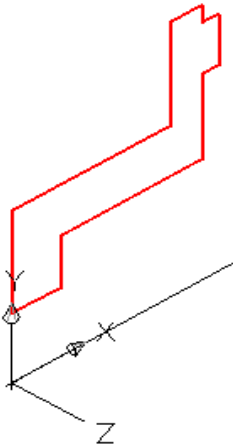

Figure Step 6
Step 6 On layer Construction, starting at 0,0,0, draw a line of any length along the X axis. If you use ortho mode, you can draw it quickly. This will be the axis for the revolution. See Figure Step 6.